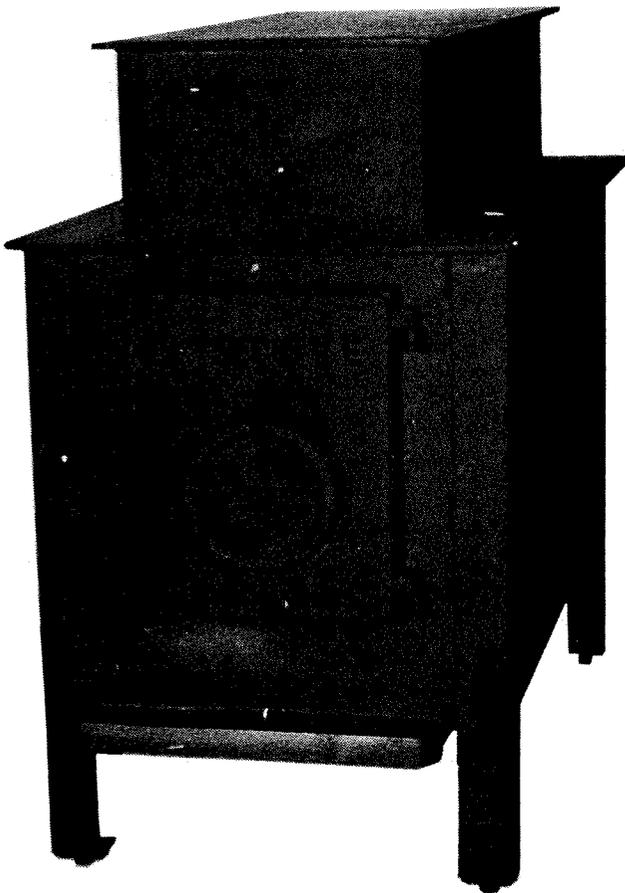

Fig. 8. Le Stove box stove.
10. **The Liter Knot** (distributor), P.O. Box 1881, Hickory, NC 28601. Le Stove (Fig. 8 and Table 1) will hold 50 pounds of wood. Levelers are affixed to legs. This model is patterned after the Jøtul 118.